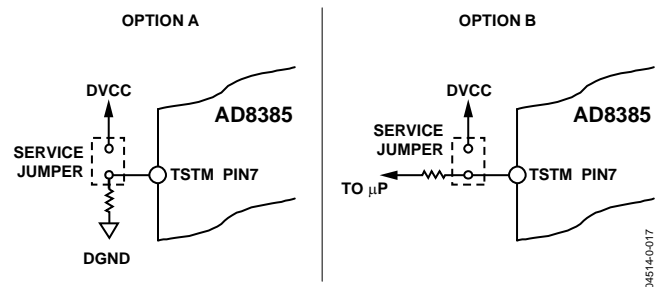

Figure 17. Service Jumper Location
1. Ensure that the TSTM pin is high on initial power-up by inserting a service jumper. See Figure 17.